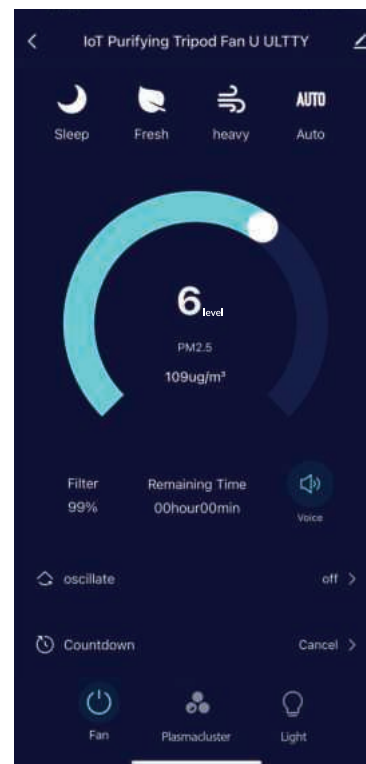

Figure 11
14. Fan control application screen (Figure 11).